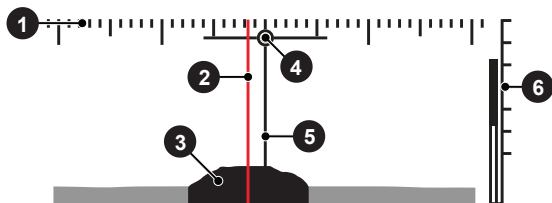

Fig. 37 - Tracker indication display
**Scale:** **1** (Fig. 37) Dynamic scale displays metric millimetre increments or 1/16th inch increments to change the measurement units on the system (see *NAVIC user manual for details*).
**Weld Centre:** **2** (Fig. 37) Indicates the centre of the weld.
**Weld Profile:** **3** (Fig. 37) Represents the size and shape of the weld.
**Positioning Sight:** **4** (Fig. 37) Indicates if the weld is adequately centred for tracking.
**Tracker Centre:** **5** (Fig. 37) This line is located at the centre of the display.
**Signal Strength:** **6** (Fig. 37) The bottom indicator (*tick*) of the graph represents the cut-off when the signal strength is no longer viable. Should signal strength drop below the lowest indicator of the graph, ensure the sensor's protective glass is clean (*using a microfiber cloth*) and/or install the shroud onto the Tracker to eliminate excess ambient light (see "*Shroud Installation/Removal*" on page 22).